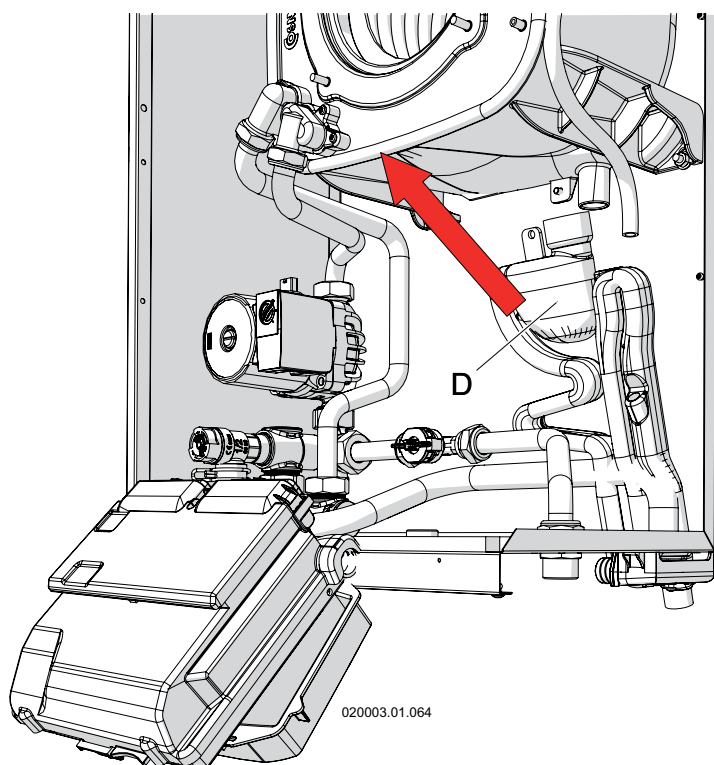

Figure 8-4 - Removing condensate collection siphon
- 1.- with the appliance on, open a domestic hot water tap or taps fully to force the burner to its maximum power and the level of the liquid present inside the siphon tank "D" lowers (see figure 8-4);
- 8.- extract the siphon outwards (see figure 8-4) paying attention to disconnect the collection pipes of the water coming from the upper part of the appliance and from the air vent valve.